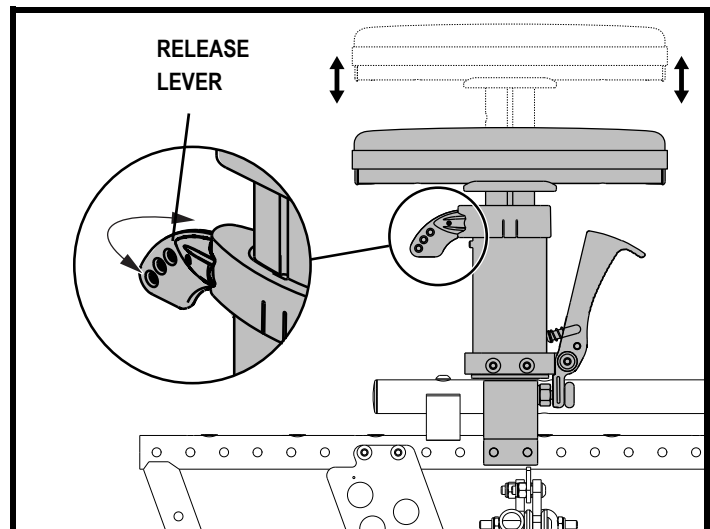

Figure 30. Drop-in Armrest Height Adjustment
1. Pull back the release lever located on the armrest. See figure 30.